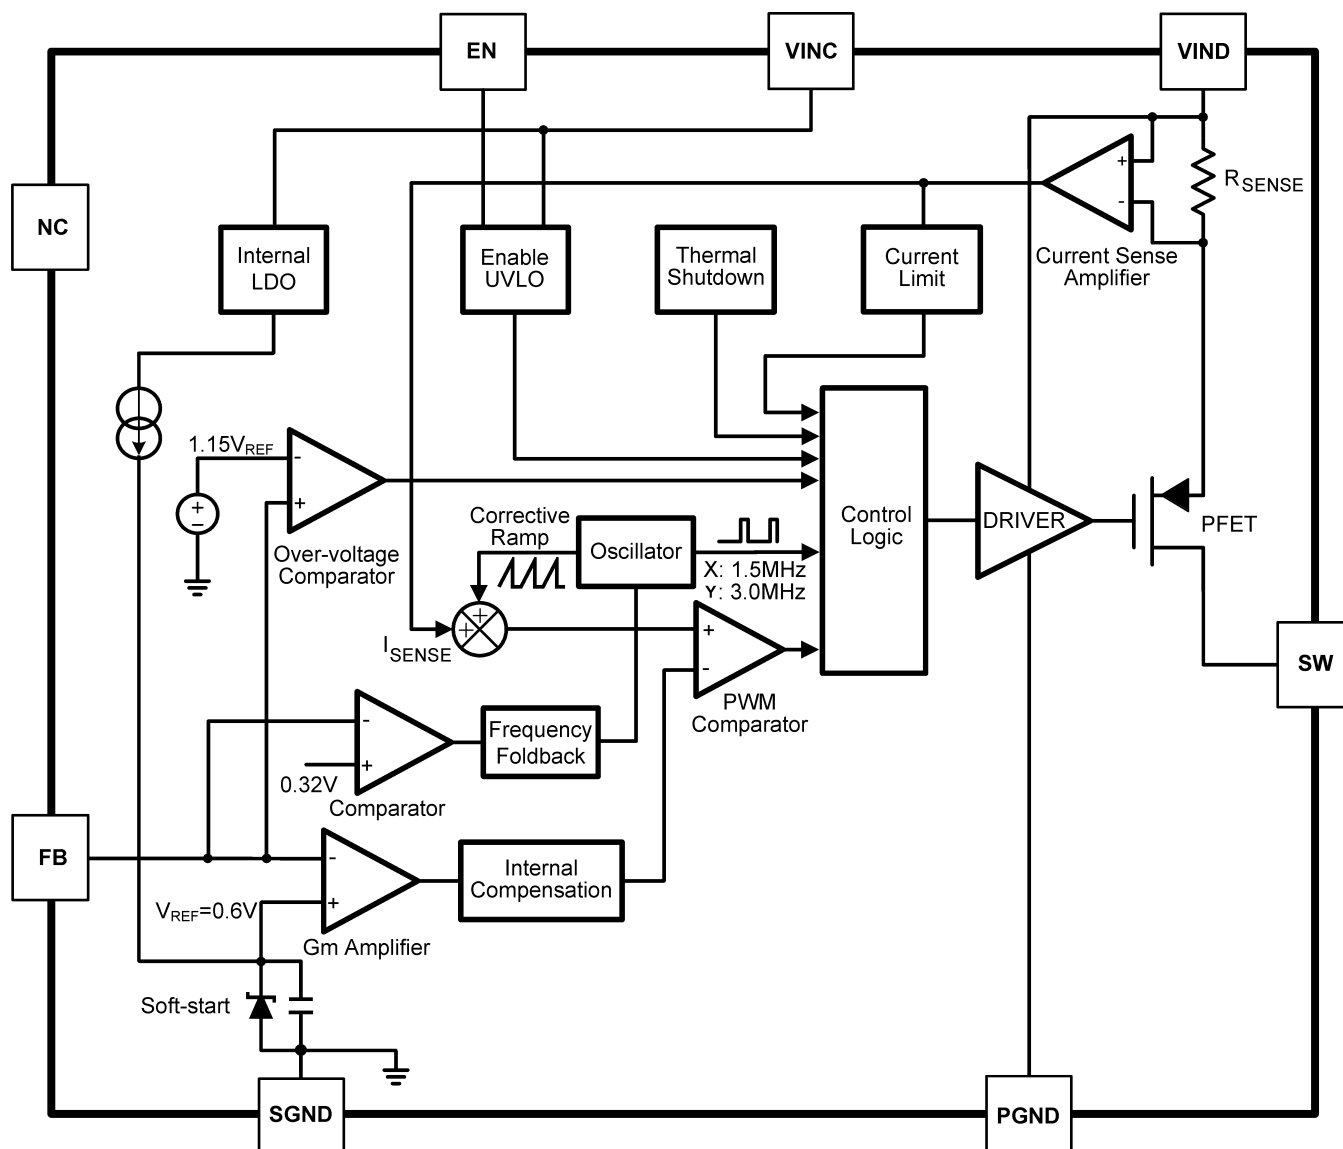
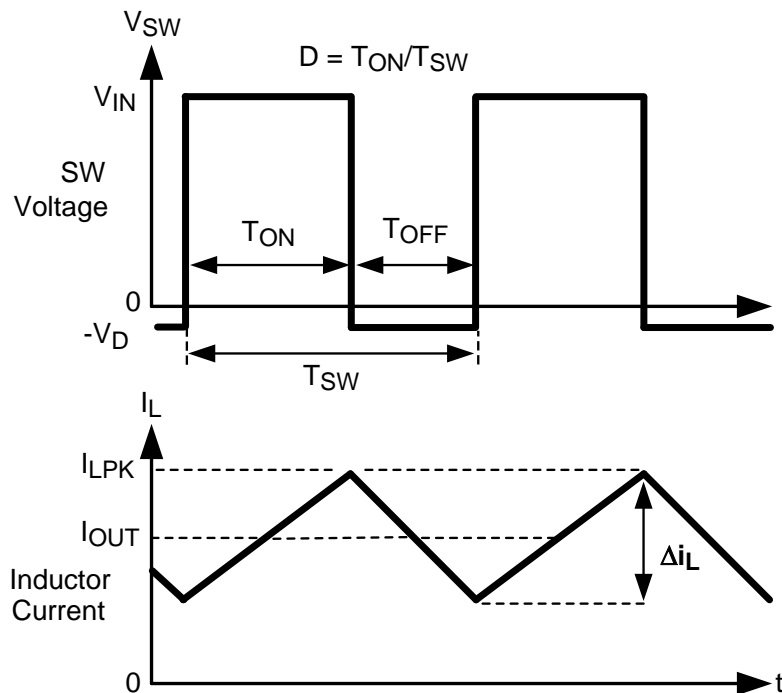

Figure 22. Simplified Block Diagram
Figure 23. SW Pin Voltage and Inductor Current Waveforms
The LMR10530 is a constant frequency PWM buck regulator IC that delivers a 3.0A load current. The regulator is available in preset switching frequencies of 1.5MHz or 3.0MHz. This high frequency allows the LMR10530 to operate with small surface mount capacitors and inductors, resulting in a DC/DC converter that requires a minimum amount of board space. The LMR10530 is internally compensated, therefore it is simple to use and requires few external components. The LMR10530 uses peak current-mode control to regulate the output voltage. The following description of operation of the LMR10530 will refer to the Typical Application Circuit, to the waveforms in Figure 23 and simplified block diagram in Figure 22. The LMR10530 supplies a regulated output voltage by switching the internal PMOS power switch at a constant frequency and variable duty cycle. A switching cycle begins at the falling edge of the reset pulse generated by the internal oscillator. When this pulse goes low, the output control logic turns on the internal PMOS power switch. During this on-time, the SW pin voltage (V_{SW}) swings up to approximately V_{IN} , and the inductor current (I_L) increases with a linear slope. I_L is measured by the current sense amplifier, which generates an output proportional to the switch current. The sense signal is summed with the regulator's corrective ramp and compared to the error amplifier's output, which is proportional to the difference between the feedback voltage and V_{REF} . When the PWM comparator output goes high, the internal power switch turns off until the next switching cycle begins. During the switch off-time, the inductor current discharges through the catch diode D1, which forces the SW pin to swing below ground by the forward voltage (V_D) of the catch diode. The regulator loop adjusts the duty cycle (D) to maintain a constant output voltage.
The inductor value determines the output ripple current (Δi_L , as defined in Figure 23). Lower inductor values decrease the size of the inductor, but increase the output ripple current. An increase in the inductor value will decrease the output ripple current. In general, the ratio of ripple current to the output current is optimized when it is set between 0.2 and 0.4 for output currents above 2A. This ratio r is defined as: